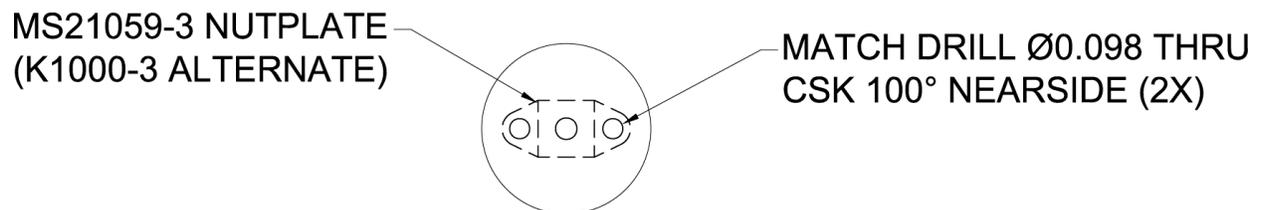

Figure B-15 Aligned Nut Plate And Disk
10. Align one *stainless steel* nut plate MS21048-3 (or K1001-3) to each disk using the center hole as a guide. Match drill 0.098 holes to nut plate and countersink 100° on one side. Refer to Figure B-15.